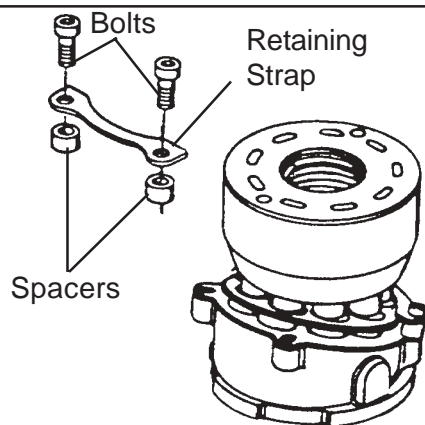

**FIGURE 62**
8. When removing or installing Bearing Cone, DO NOT damage Output Shaft Sealing area (Stepped area between Bearing Journal and Output Shaft Splines) This area is critical for sealing Output Shaft Seal (Figure 62).
6. Carefully reposition Cylinder Barrel Assembly and Swash Plate so that Cylinder Barrel Face is on Clean Flat Surface. Lubricate and install Output Shaft Sub-Assembly (Figure 62) in Barrel Sub-Assembly (Figure 68).